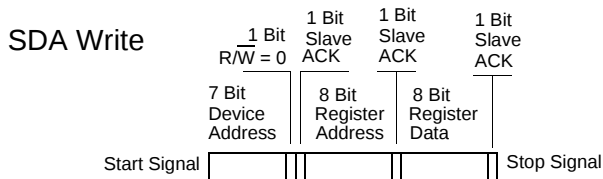

Figure 1. Data Frame Architecture
The CY24202 utilizes a 2-wire interface SDAT and SCLK that operates up to 400 kbits/sec in Read or Write mode. The basic Write serial format is as follows: Start Bit; 7-bit Device Address (DA); R/w Bit; Slave Clock Acknowledge (ACK); 8-bit Memory Address (MA); ACK; 8-bit Data; ACK; 8-bit Data in MA+1 if desired; ACK; 8-bit Data in MA+2; ACK; etc. until STOP Bit, as illustrated in Figure 1.